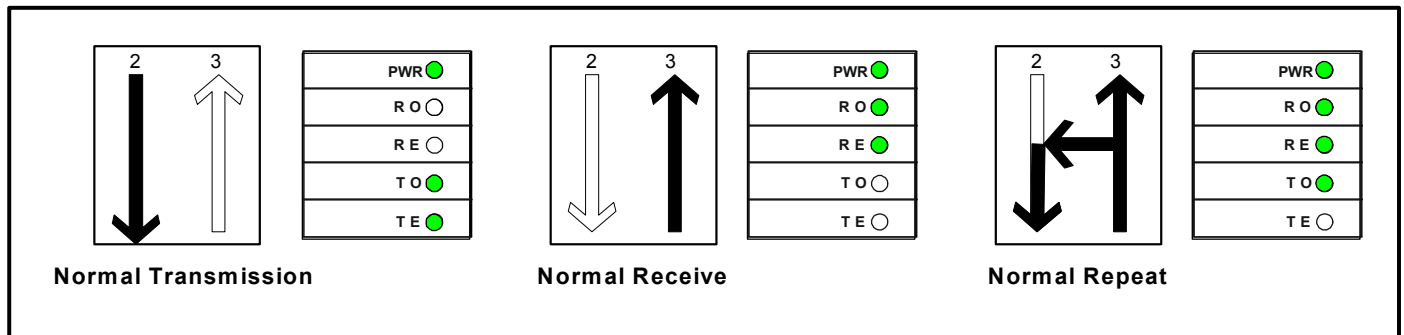

FIGURE 5. Diagnostic LED patterns and signal paths
Each Link/Repeater is equipped with four diagnostic LEDs. They represent the electrical transmit (TE), optical transmit (TO), electrical delivery (RE), and optical receive (RO) paths. These LEDs, when illuminated, show that the appropriate path is active. When the Link/Repeater is transmitting, both TE and TO LEDs will illuminate to show the transmit path active. When the Link/Repeater is receiving light signals, both RO and RE LEDs will illuminate. If the unit is in the repeat mode and receiving light, the RO, RE and TO LEDs will illuminate because the signal is being re-transmitted out the optical port, as well as, being delivered to the D-connector. LEDs only illuminate when the path is active; powering of the unit does not illuminate the LEDs unless their path is active. When data is present on the paths, the LEDs may "flicker"; this is normal. The diagnostic LEDs may be used for trouble shooting by observing that the illumination of the LEDs corresponds with activity in the unit. See Figure 5 for LED patterns and signal paths.
7. Verify operation using the diagnostic LEDs. (See Figure 5).